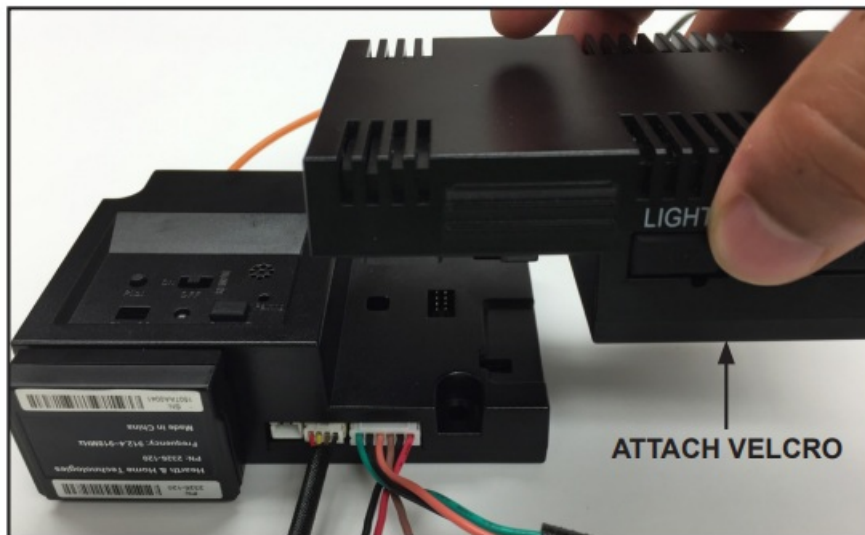

Figure 3 Connecting IFT-ACM and IFT-ECM
5. Attach velcro included with the IFT-ACM to the bottom of the ACM. See Figure 3.
6. Connect the IFT-ACM to the IFT-ECM by aligning the pins and tabs and pushing the IFT-ACM onto the IFT-ECM until both tabs latch in place. Ensure the IFTECM and IFT-ACM are aligned with each other and fastened securely. See Figure 3.